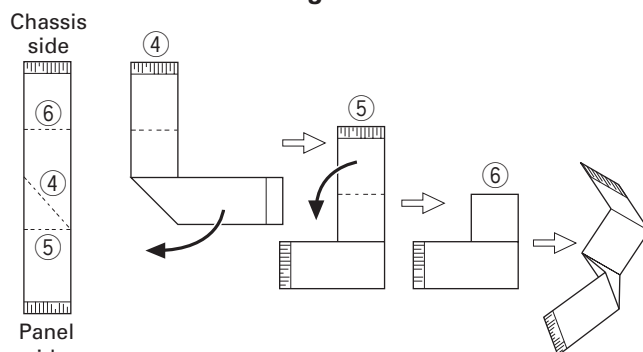

Fig. 3-2
1. Lift the two tabs of the panel on the bottom of the transceiver with a flat-head screwdriver (①) and remove the panel from the chassis (②).
2. Remove the flat cable from the connector (CN902) of the display unit of the panel. (③)
3. Fold the black line of the flat cable (in three parts) as shown in Figure 3-2. (④, ⑤, ⑥)